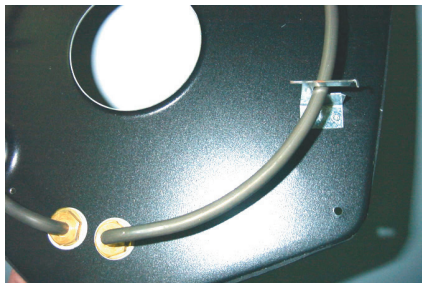

Figure 14 - Heating Element and Bracket
7. Tubular heating element must be flush against bracket (see Figure 14). This centers the element to the center hole in metal pan.